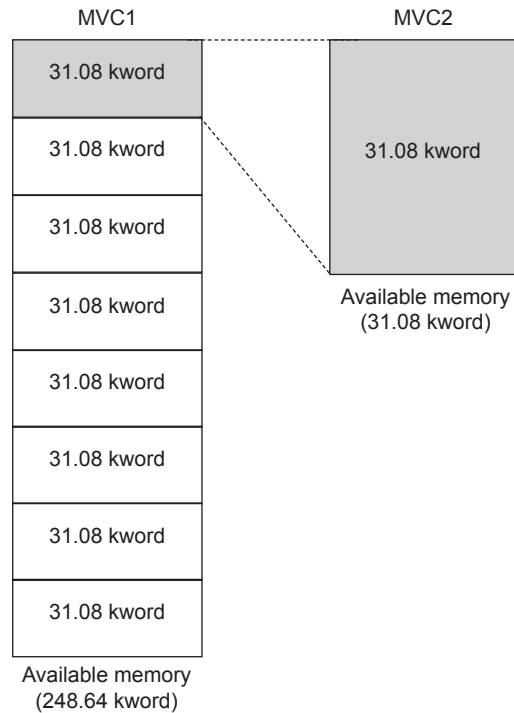

Figure 6.44 - Example of Trace function memory distribution by the control boards
- In order to allow the analysis of data captured by the Trace function, it is important that all the channels have the same size, not mattering whether the MVC1 or the MVC2 control board controls them. As can be observed in the figure 6.44, each board makes available a different total Trace function memory and, therefore, there are some important implications to be observed when it comes to knowing the total allocated memory for each channel.